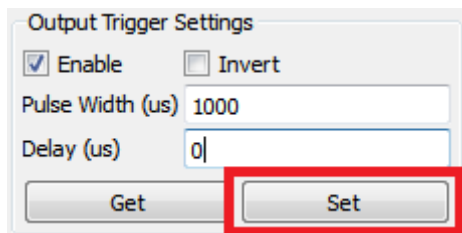

Figure 2-33. DLP LightCrafter GUI Output Trigger Set Button
4. Click "Set" as shown in Figure 2-33.